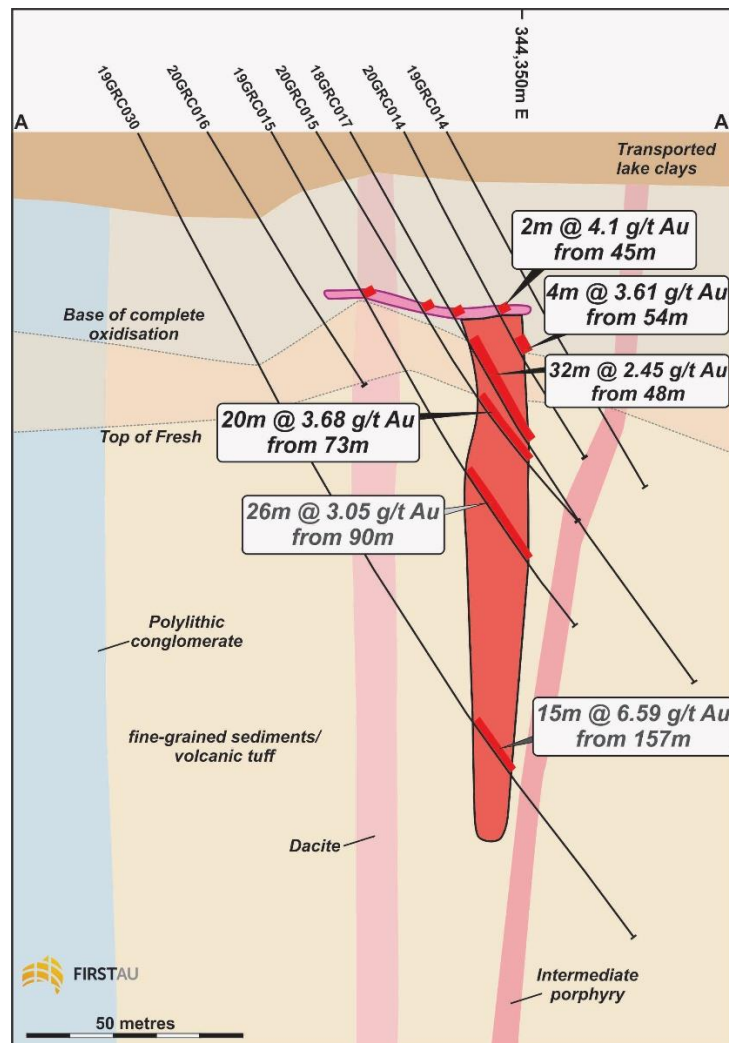
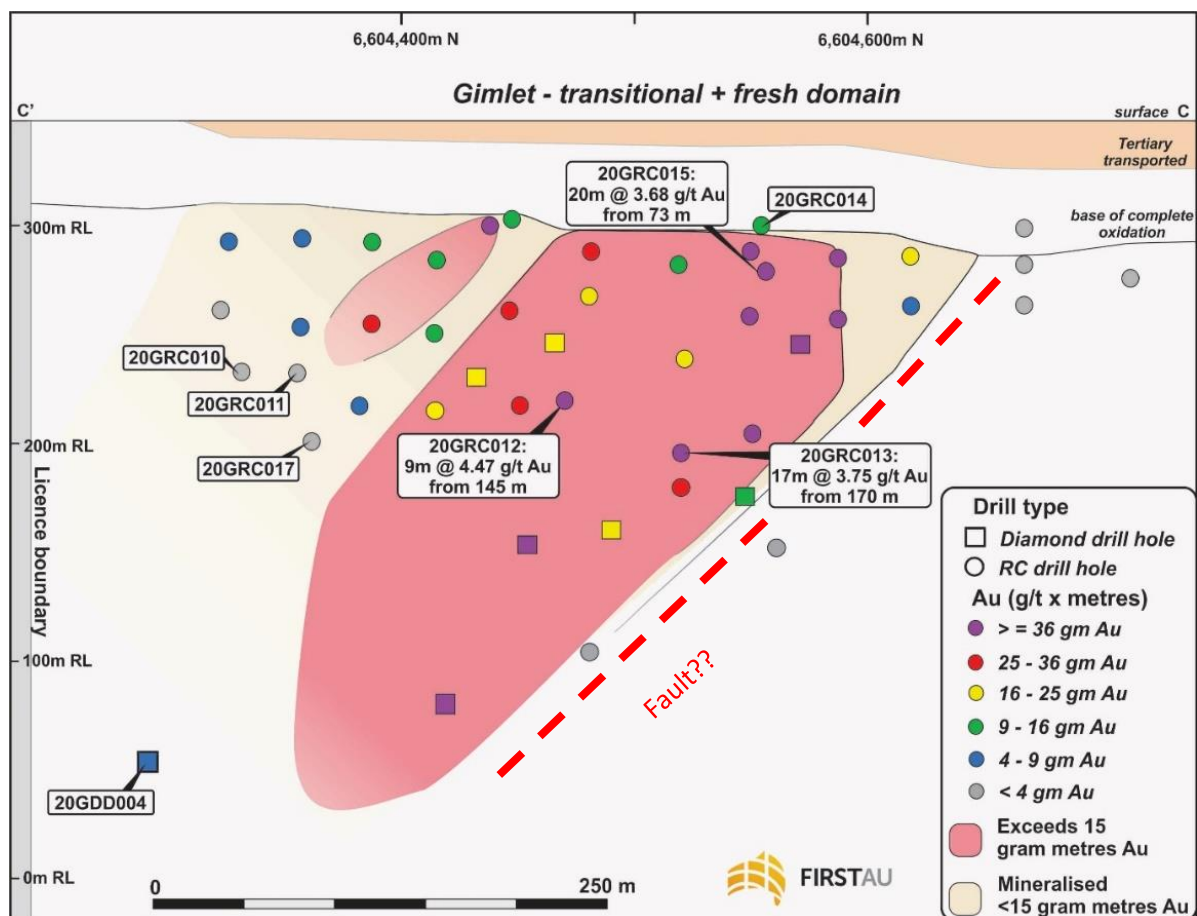
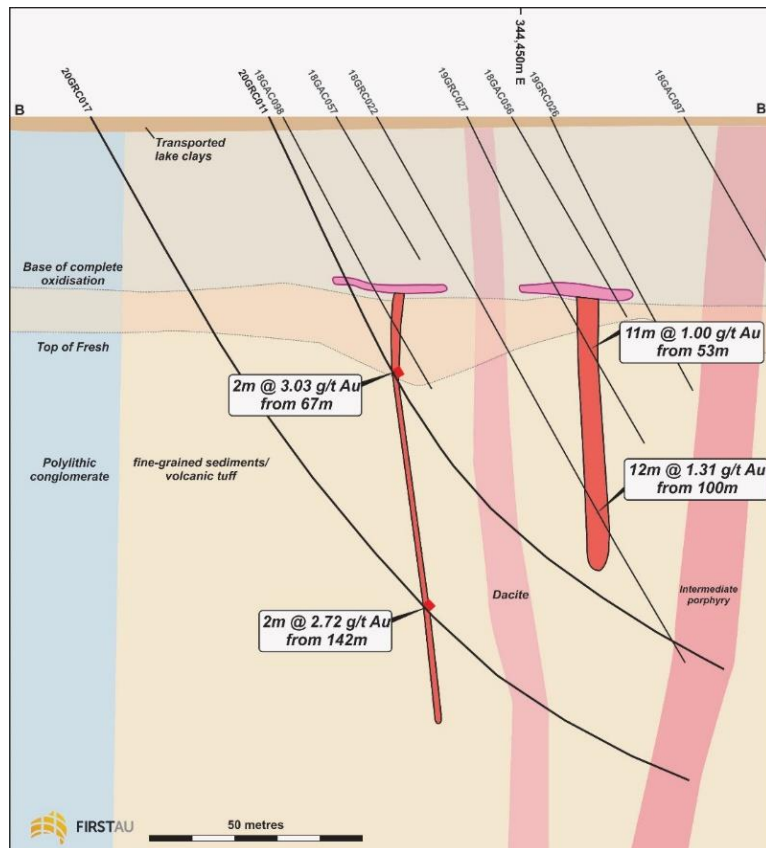

Figure 2. Drilling cross section (See Figure 1 for location) showing drillholes 20GRC014, 20GRC015 and 20GRC016.
Figure 3. Drilling long section (See Figure 1 for location) showing pierce point of recent drill holes.
Figure 4. Drilling cross section (See Figure 1 for location) showing drillholes 20GRC017 and 20GRC011, with mineralisation in new footwall position.
Figure 1. TMI image depicting the recent RC and diamond holes at Gimlet (labelled). Also note location of cross sections (Figures 2 and 4) and long section (Figure 3). Image also depicts new target area identified through new structural study (Coordinates are in GDA MGA94 Zone 51)
The drilling in the Gimlet has provided some additional extent below the mineralisation envelope and infill drill coverage for a potential new Resource estimate (Figures 2 and 3). This included intersection of **17m @ 3.7 g/t Au** from 170m (drillhole 20GRC013), **20m @ 3.7 g/t Au** from 72m (drillhole 20GRC015) and **9m @ 4.8 g/t Au** from 145m (drillhole 20GRC012) within the fresh zone. The drilling also tested gaps in the oxide position of the resource and returned **2m @ 4.1 g/t Au** from 45m (drillhole 20GRC014) and **2m @ 1.5 g/t Au** from 46m (drillhole 20GRC015). In addition, the drilling also identified a new lode position east of the current main lode, which will now be a target for future programs (Figure 4). This included **2m @ 3.0 g/t Au** from 67m (drillhole 20GRC011) and **2m @ 2.7 g/t Au** from 142m (drillhole 20GRC017).
5. Structure in the core indicates the system should plunge gentle to moderate to the NNW. It is suggested that the gentle to moderate SE plunge inferred in longitudinal section (See Figure 3) is an artifact of the system being cut and offset across NNE-SSW striking, ESE-dipping, apparent dextral fault (See Figure 1). This fault position is also evident in the magnetics.